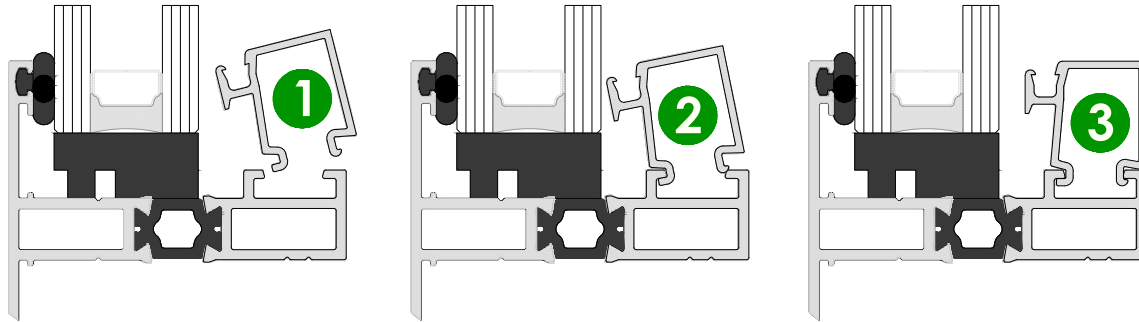

FIG. 1
- a. Using a mallet hammer install glass stops, starting with horizontals. See **FIG. 1**